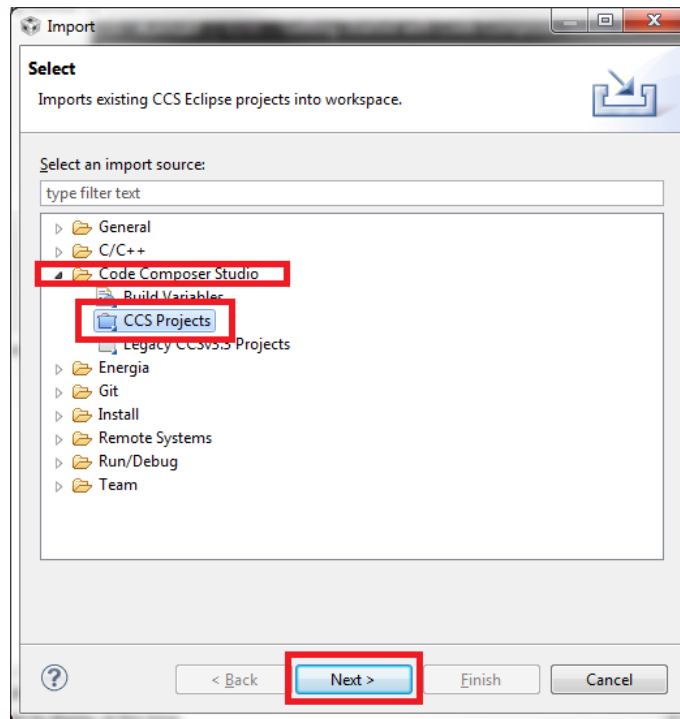

Figure 3-2. CCS Project Import Source Selection
- Expand the **Code Composer Studio** folder then click the **CCS Projects** item, as shown in Figure 3-2.